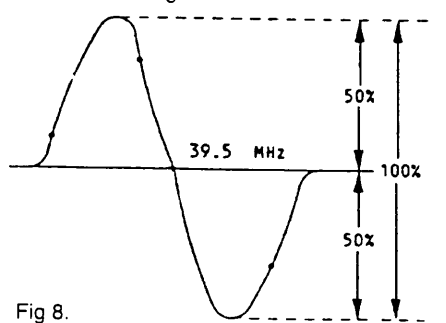

Fig 6.
- Adjust T105 (AFC coil) for waveform as shown in fig 6.